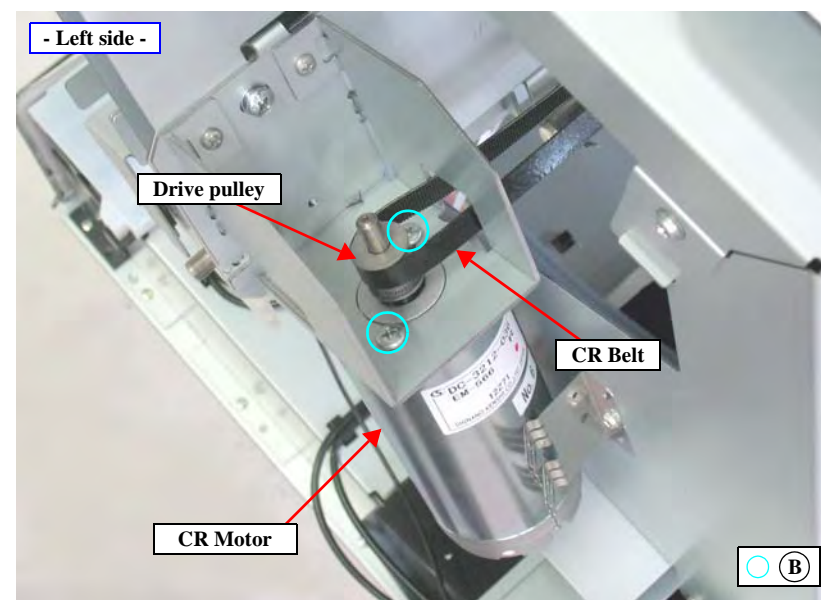

Figure 4-67. Removing the CR Motor
**NOTE:** There is no Maintenance Tank (L) mounted for the Epson Stylus Pro 7700/7710/7900/7910/WT7900/WT7910.
11. Remove the two screws that secure the CR Motor, and remove the CR Motor. *See Figure 4-67.*